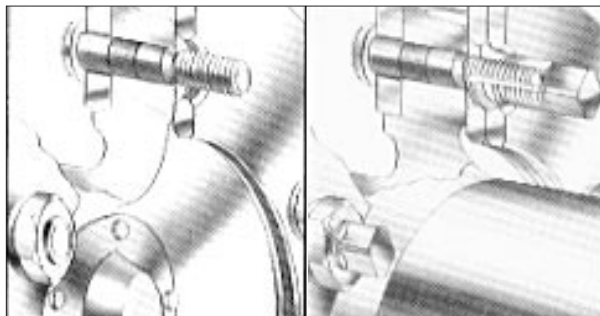

Figure 4 Single wheel installation Figure 5 Dual wheel installation
2. Mount the single or inner dual wheel over the stud, being careful not to damage any of the threads on the studs. Figure 4 illustrates how a single wheel should look when mounted. Figure 5 shows the proper mounting configuration for a dual wheel.